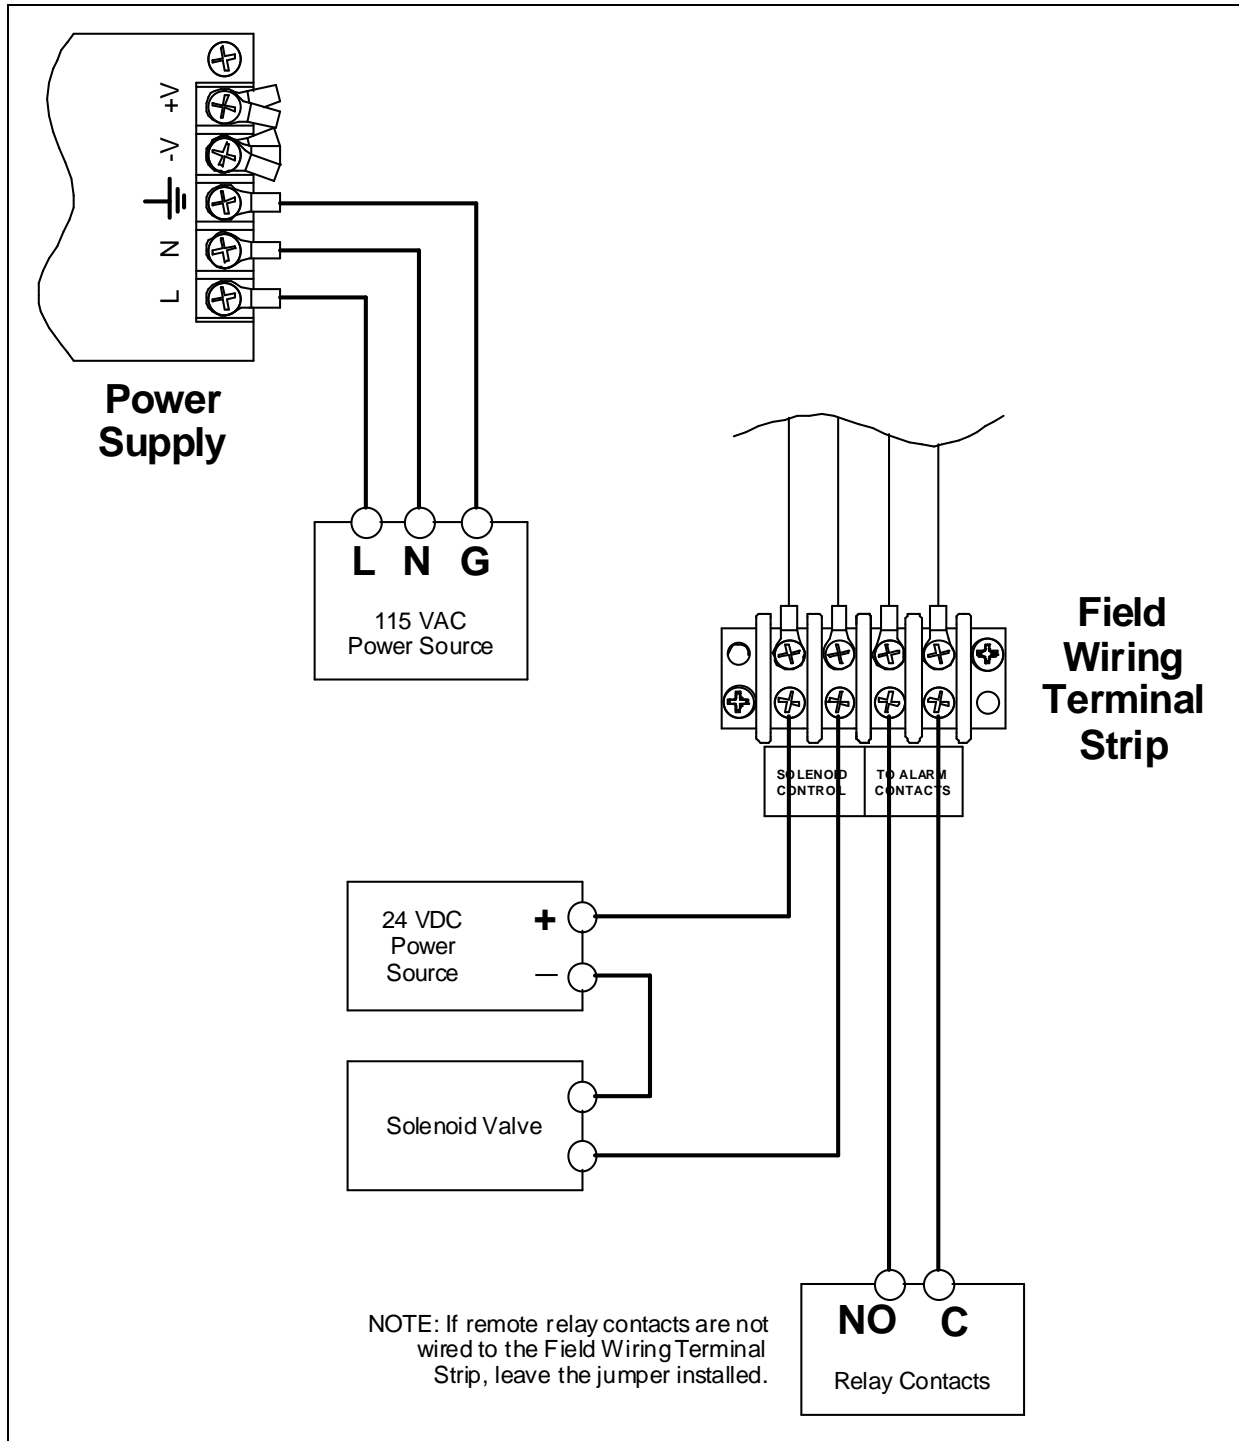
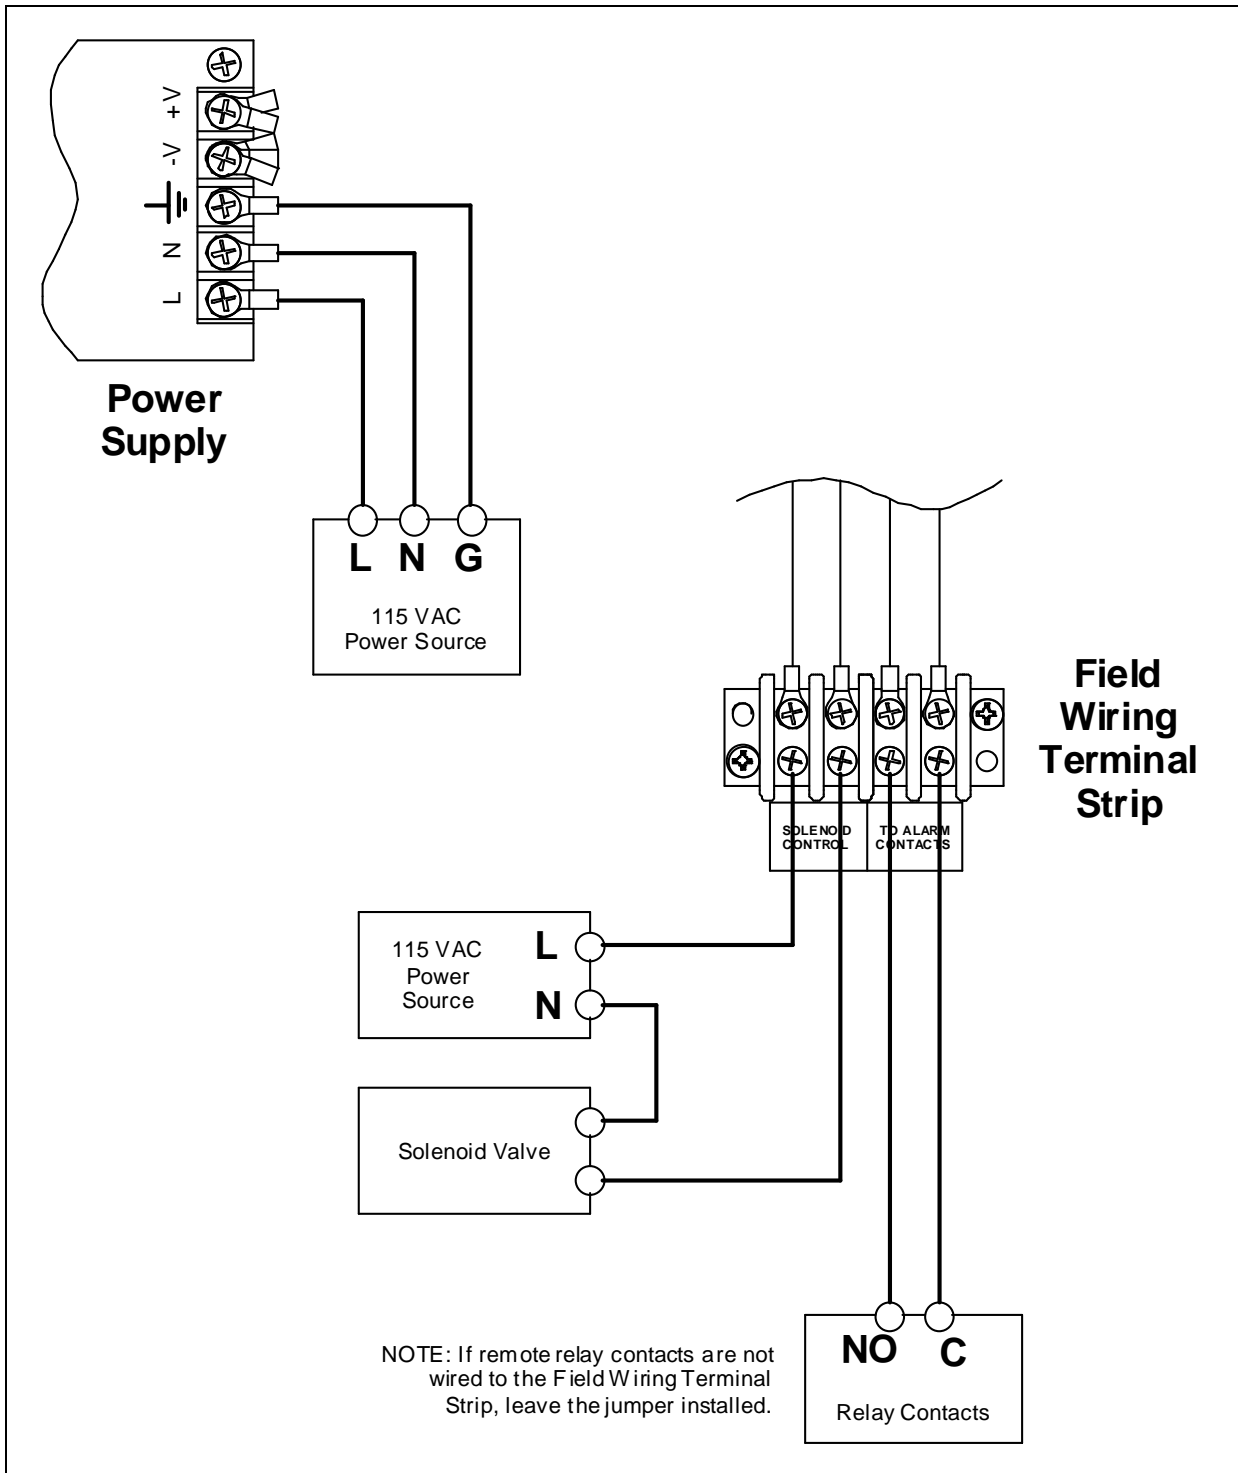

Figure 5: Field Wiring, DC-Powered Solenoid Valve
Figure 6: Field Wiring, AC-Powered Solenoid Valve
5. Connect the other end of the three wires to the line, neutral, and ground terminals on a 115 VAC power source (as shown in Figure 5 and Figure 6 below).
7. Connect one end of the two wires to the "Solenoid Control" terminals on the Field Wiring Terminal Strip as shown in Figure 5 or Figure 6 below.
8. Connect the other end of the wires to the + or line terminal on a 24 VDC or 115 VAC power source and to the solenoid valve's + or line input as shown in Figure 5 or Figure 6 below.
9. For a DC-powered solenoid valve, connect the - terminal on the 24 VDC power source to the solenoid valve's - input as shown in Figure 5 below.
10. For an AC-powered solenoid valve, connect the N terminal on the 115 VAC power source to the solenoid valve's N input as shown in Figure 6 below.
13. Connect the wires to the "To Alarm Contacts" terminals on the Field Wiring Terminal Strip as shown in Figure 5 and Figure 6 below.
15. Connect the wires to the NO and C contacts on the relay that you want to use to control the solenoid valve (as shown in Figure 5 and Figure 6 below). When the relay contact is closed, power is supplied to the solenoid valve. When the relay contact opens, the power line to the solenoid valve is cut.